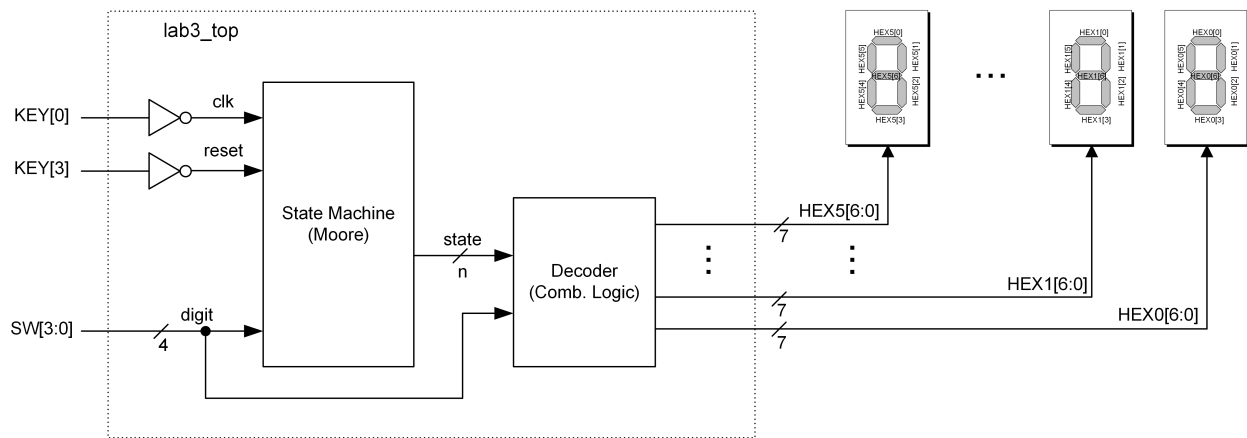

Figure 1: The circuit you will design for Lab 3
Figure 1 illustrates the overall system. The push button KEY0 is the clock input and KEY3 is used for the reset input. It is important to note that on the DE1-SoC push buttons (e.g., KEY0, KEY3) have inverted logic: When pressed the value is 0 and when released the value is 1. For this reason we include NOT gates between KEY0 and clock and between KEY3 and reset. In Figure 1 we show a Moore state machine the output of which is connected to a combinational logic block along with the digit inputs. The combination of these two blocks forms a Mealy state machine in which the output displayed on the seven-segment LEDs depends on both the current state and the current inputs. It is recommended that you split your solution into these two blocks, but you are free to implement your design in any way you like provided the resulting system meets the input/output specification outlined in the paragraph above. In the suggested approach, the Moore state machine checks that the sequence of values input on SW[3:0] matches the combination. The output of the Moore state machine along with the values of SW[3:0] are input to a decoder which in turn displays values on the seven-segment LEDs. In Figure 1 the output of the Moore machine is n -bits wide where n is a parameter you decide based upon your own design.
- 2/3 marks** If you created a testbench and it compiles and works with your `lab3_top` module, you include a `lab3_wave_rtl.do` file that includes both top level signals shown in Figure 1, and the state of your state machine, but your simulation output does not look correct to the TA. For example, the output does not change at the right time—e.g., it is delayed by one or more extra cycles. You will also get this mark if your testbench and/or FSM module includes no comments or very few comments (see below).